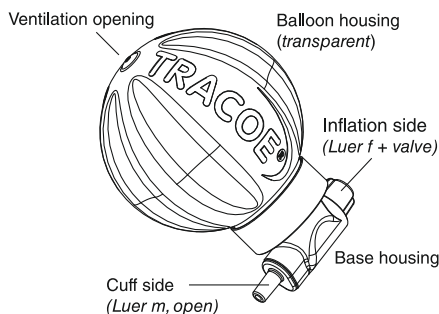

Fig. 1: Components and connectors of the TRACOE smart Cuff Manager
The TRACOE smart Cuff Manager includes a spherical, hard shell (transparent) outer casing with an elastic inner balloon (blue), which is attached to a base housing with both a male and female luer connector (figure 1). This device is designed to ensure that the endotracheal/tracheostomy tube cuff pressure remains within the range of 20 cmH2O to 30 cmH2O while in clinical use. This range is achieved through passive control, with the inner balloon (blue) of the device acting as a pressure reservoir allowing the flow of air between the balloon and the endotracheal/tracheostomy cuff to maintain the pressure range.
**CAUTION:** The damping function of the inner balloon is only effective in one direction to allow inflation or monitoring of the endotracheal/tracheostomy cuff pressure and therefore, it is not active when a cuff pressure monitor or syringe is inserted in the luer -connector (on the inflation side of the device (figure 1).
The elastic inner balloon (blue) is located inside a spherical hard shell (transparent) outer casing. This inner balloon is connected to the base housing (white), which has two luer-connectors (figure 1):
This female luer connector has an incorporated self-sealing valve which prevents air flow upon removal of a syringe or pressure measuring unit, see figure 1.